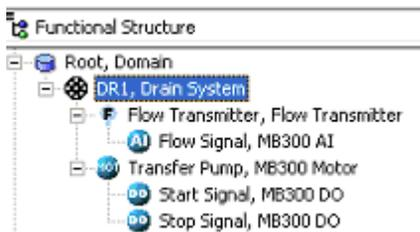

Figure 370. Instance of Drain System in the Functional Structure
4. We can now create an instance of the Drain System type in the Functional Structure, see Figure 370.